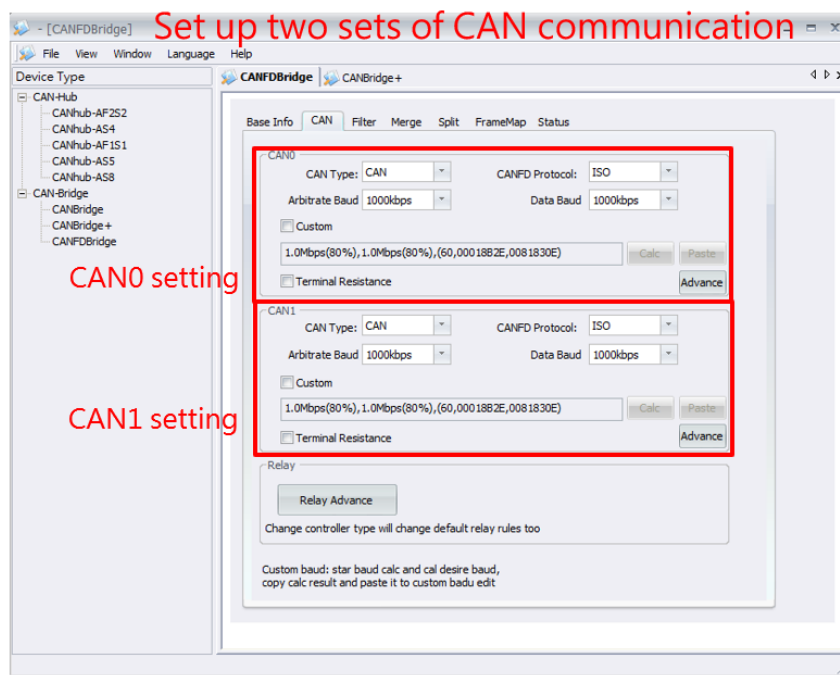

Figure F-12 Setting Up CAN
- (1) Click “Get Dev Info” to get the device info and make sure the communication is OK.
- (2) Perform the setup of CAN, refer to step 5 below and Figure F-12.
5. Perform the setup of CAN, see Figure F-12.